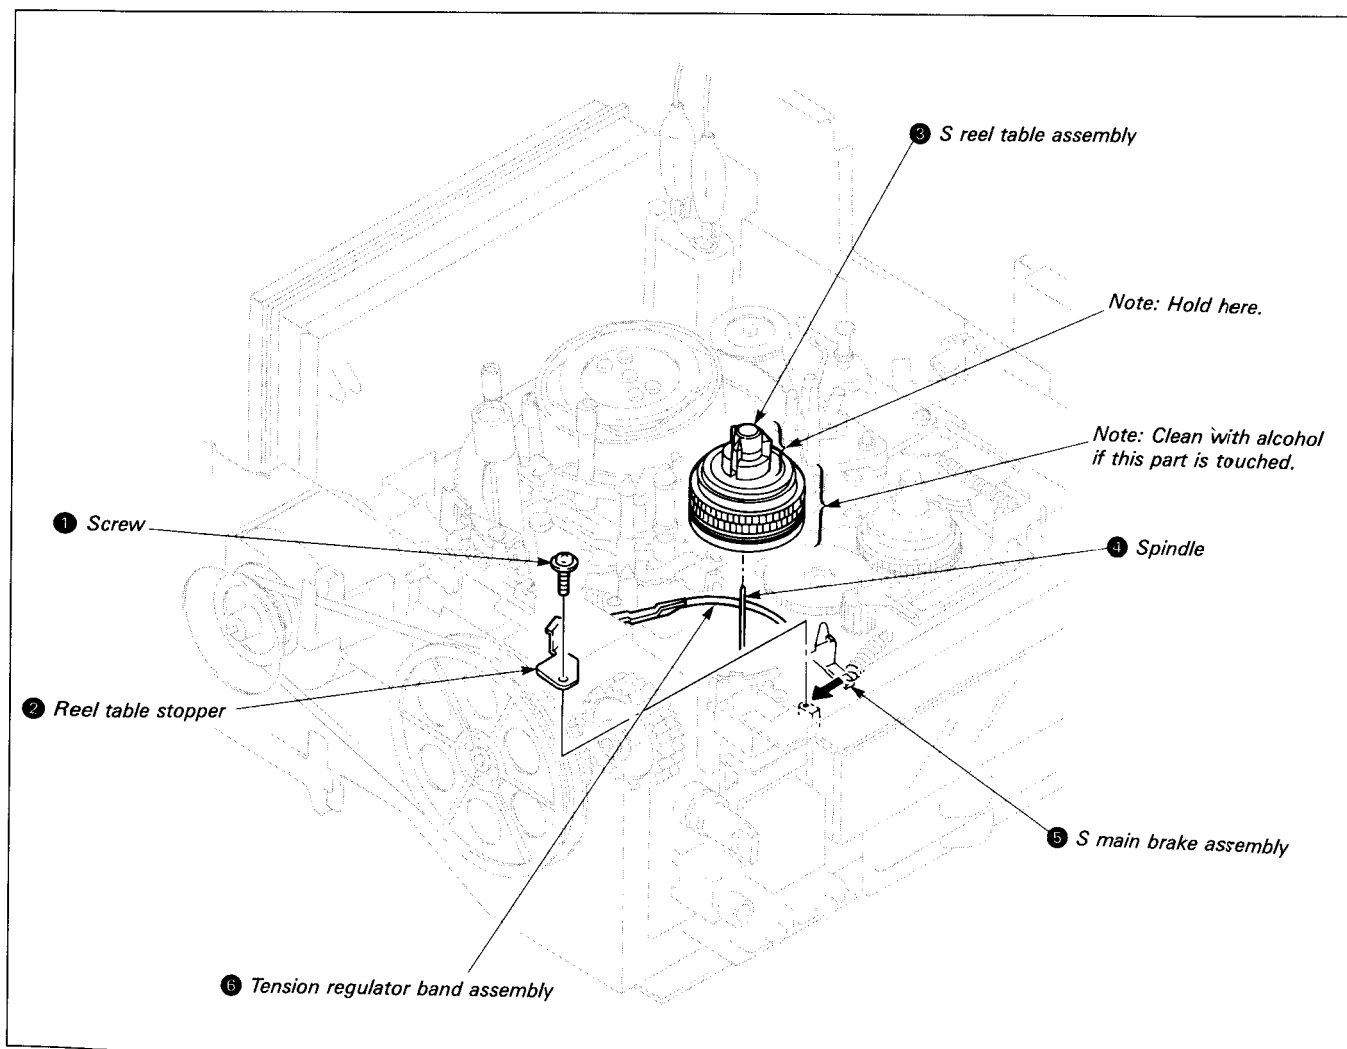

Fig. 7-6.
#### 7-3-1. S Reel Table Assembly (See Fig. 7-6.)
- 1) Remove the S reel table assembly according to item 7-3-1, 1. Removal. (See Fig. 7-6.)
- 2) Remove the band arm hook ①.
- 3) Remove hook ② and the tension regulator band assembly ③.
- 1) Mount the tension regulator band assembly ③. (Do not touch the band or change its shape.)
- 2) Fit on the band arm hook ①.
- 3) Mount the S reel table assembly according to 7-3-1, 2. Mounting. (See Fig. 7-6.)